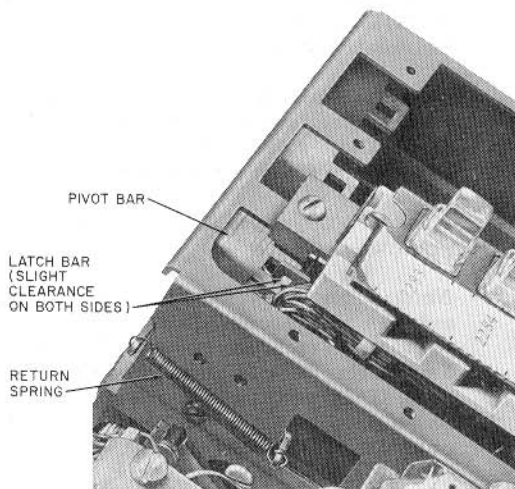

Fig. 6—Positioning 590 and 650 Series Keys
Before installing additional keys or replacement keys, check for free pivot bar motion and proper return spring action (Fig. 6).
- (5) Loosen the screws of the (reference) key. With no buttons down and the latchbar held in, shift the reference key until latchbar notch is centered over edge of pivot bar (Fig. 6).